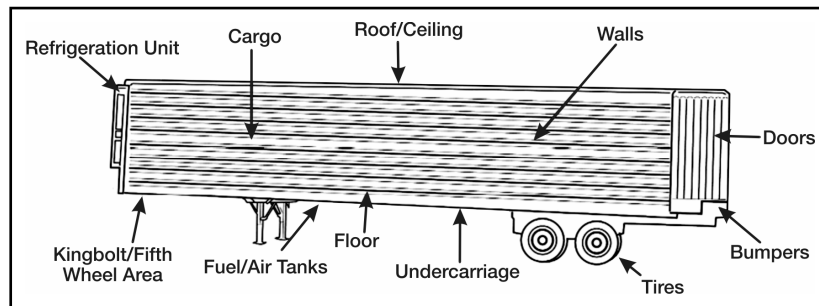

Figure 191-376-5141-10. Refrigeration trailer
- k. Determine if the commercial vehicle is a garbage truck (permanent bed) (see figure 191-376-5141-11).